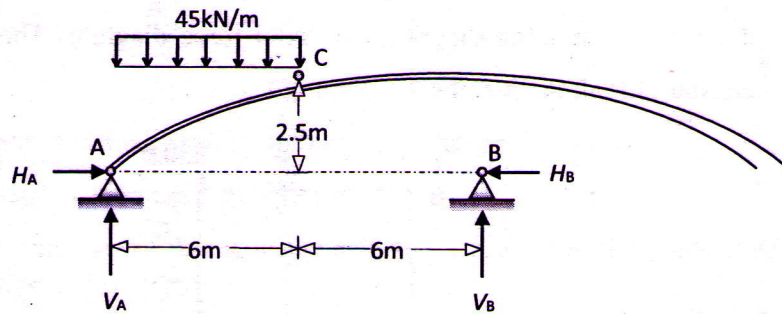

Figure 6
- b) Analyse the parabolic three-hinged arch, loaded as shown in Figure 6, and determine the magnitude of the horizontal thrust. Sketch the bending moment diagram. Determine the magnitude and position of the maximum hogging and sagging BM.